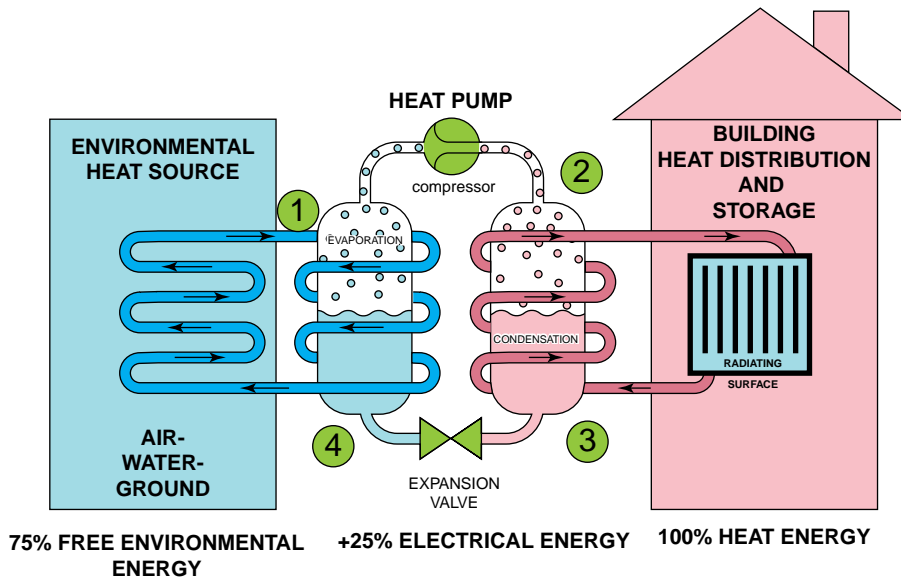

Figure 5.6 Heat pump working principle.
- 4 After giving up its heat energy, the refrigerant turns back into a liquid and, after passing through an expansion valve, is once more ready to absorb energy from the environment and the cycle is repeated as shown in Fig 5.6.